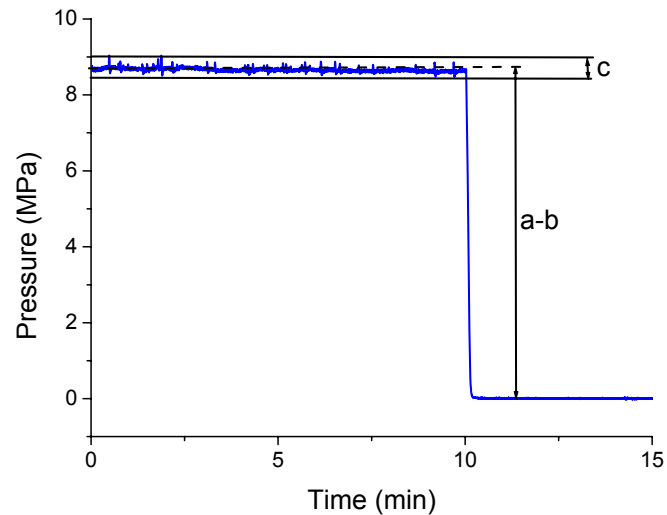

Fig 19. Calculation of pressure pulsations %P.
9. Calculate the residual pressure pulsations in the following way (see figure 19):